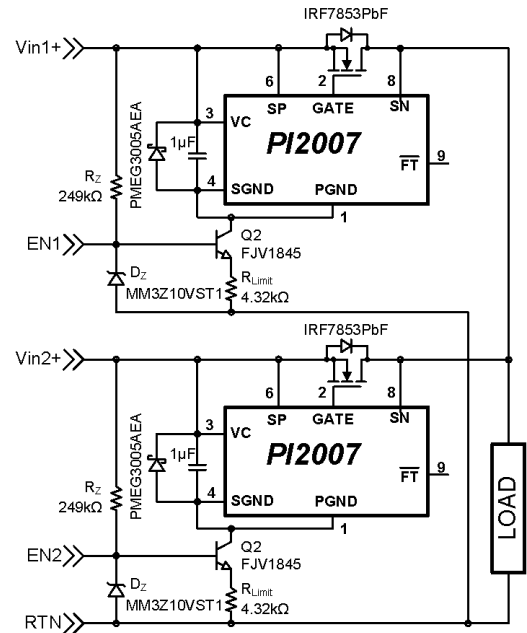

Figure 18: PI2007 in high side +48V application, VC is biased through constant current circuit.
A single PI2007 with a suitable MOSFET for each redundant +48V power source should be used and configured as shown in Figure 17 or Figure 18. Figure 17 is configured with the VC biased from the return line through a bias resistor. Figure 18 is configured with the VC biased from the return line through the constant current circuit.
**VC Bias:** Since the bus voltage is higher than 14V, connect VC pin to the high side of the input voltage and connect a bias resistor ( $R_{PG}$ ) or a constant current circuit between PI2007 SGND pin and ground ( $V_{in}$  return), as shown in Figure 17 and Figure 18. Place a low forward voltage drop Schottky diode and a 1μF ceramic capacitor between SGND pin and VC pin. Also connect PGND pin to SGND at the coupling capacitor terminal.